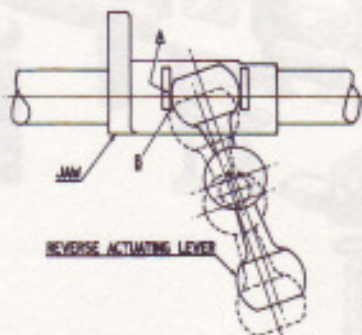

FIG.10. CORRECT POSITION OF REVERSE ACTUATING LEVER IN RELATION TO JAW.
(ii) Cases have occurred whereby the bronze reverse actuating lever 9, Fig.9, mounted on the eccentric pivot pin (7), have been fitted 180° out of position in relation to the forward jaw on the reverse selector shaft as shown in dotted lines on Fig.10. This could cause the radius portion of the lever to come out of contact with the reverse actuating jaw and lock on the edge of the latter with the flat on the end of the lever at point 'B'.
until the bronze lever has maximum engagement in the reverse actuating jaw as shown at point 'A' Fig.10. Lock the eccentric pin in position by re-tightening the two nuts. The above condition should be investigated whenever a gearbox is serviced, whether the reverse shaft has been removed or not. Should alteration be necessary, it will be essential to check and adjust (laterally), the reverse motion shaft as described in Sub-paragraphs (iii)d, and (iv).